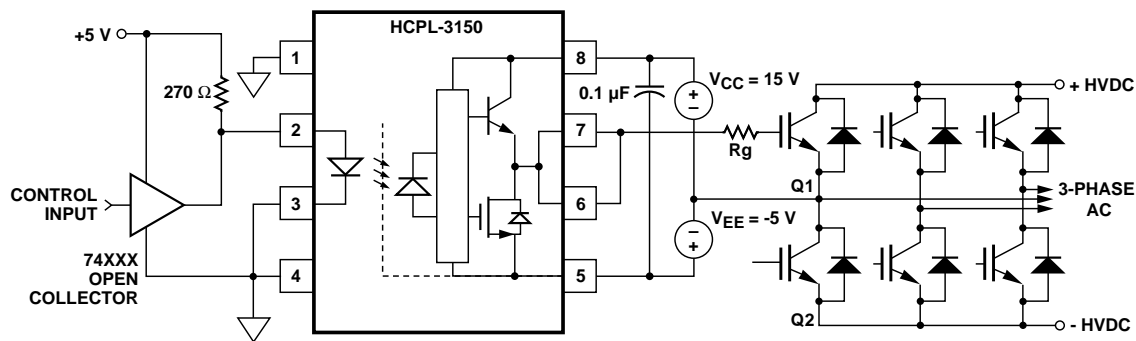

Figure 26. HCPL-3150 Typical Application Circuit with Negative IGBT Gate Drive.
**Step 1: Calculate Rg Minimum From the IOL Peak Specification.** The IGBT and Rg in Figure 26 can be analyzed as a simple RC circuit with a voltage supplied by the HCPL-3150.
For the circuit in Figure 26 with IF (worst case) = 16 mA, Rg = 30.5 Ω, Max Duty Cycle = 80%, Qg = 500 nC, f = 20 kHz and TA max = 90°C: